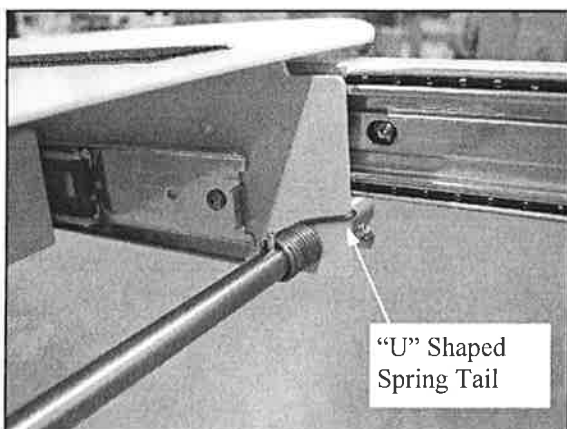

Figure 6
- 8) Hook the "U" shaped tail of each spring on the edge of the frame, and by hand rotate the lock rod such that the roll pins start to put tension on the torsion springs. Be sure to orientate the spring as in, (Figure 6).